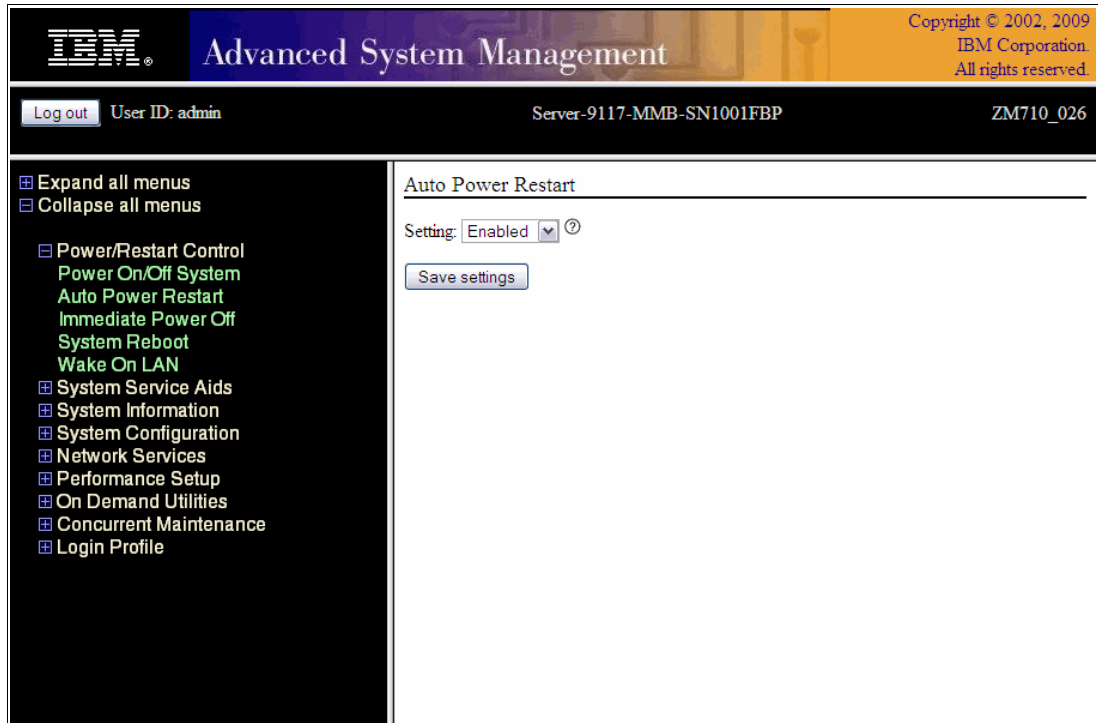

Figure 4-2 ASMI Auto Power Restart setting screen
**Note:** The auto-restart (reboot) option has to be enabled from the Advanced System Manager Interface or from the Control (Operator) Panel. Figure 4-2 shows this option using the Advanced System Management Interface (ASMI).